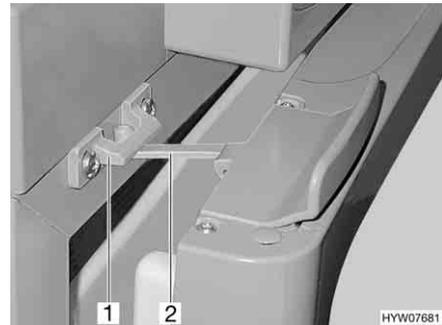

Fig. 242 Refrigerator door in ventilation position (Thetford)
- Open the lock (Fig. 242,2) and snap it into the locking catch (Fig. 242,1). The refrigerator door will then stay slightly open.